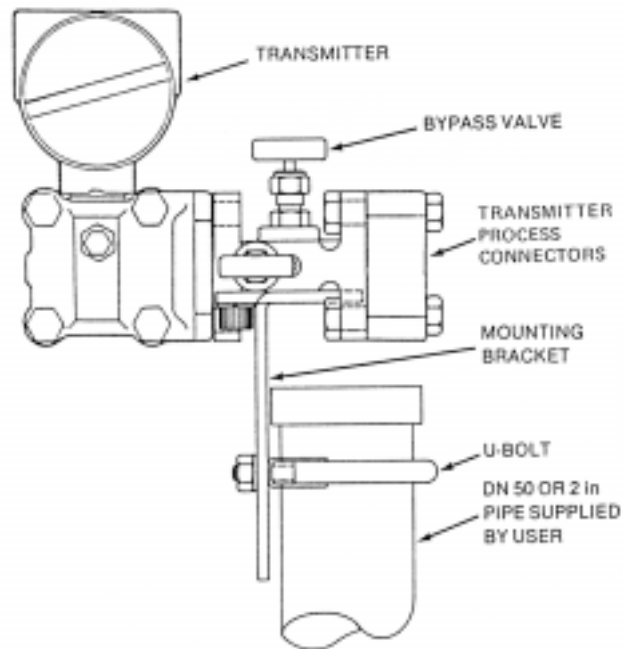

Figure 7. Installation of Optional Manifold Mount on 3-Valve Mini-Manifold with Bolt-On Process Connectors
1. If manifold has an optional manifold mount (with mounting bracket), install mounting bracket on pipe as shown in Figure 7. Then install mini-manifold on mounting bracket as shown.